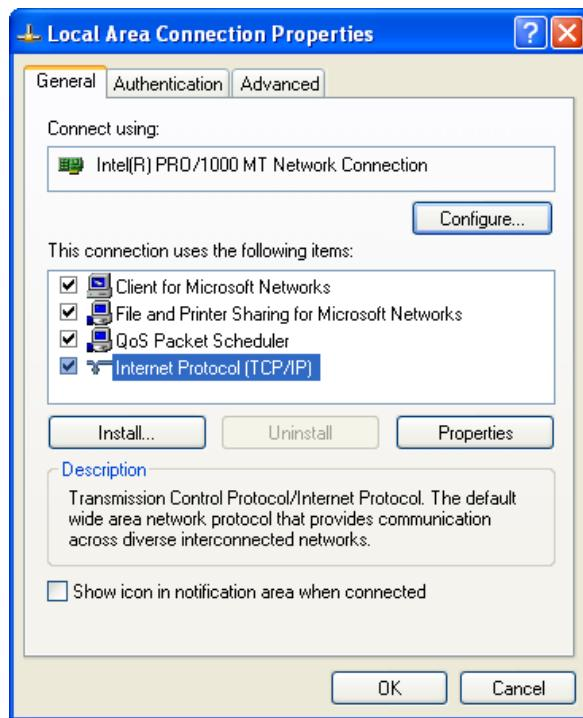

Figure A-1: Local Area Connection Properties Dialog
5. Highlight Internet Protocol (TCP/IP) in the General tab and click Properties to open the Internet Protocol (TCP/IP) Properties dialog (Figure A-1).